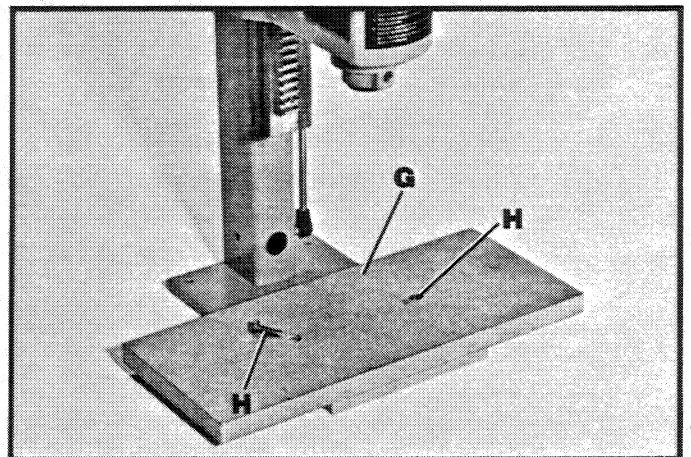

Fig. 6
5. Assemble table (G) Fig. 6, to base using the two screws (H) as shown.